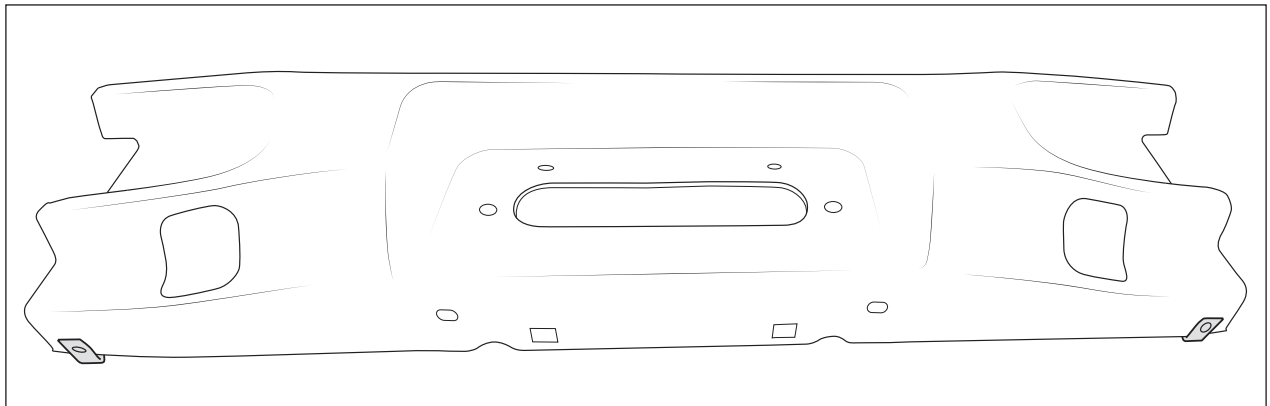

Figure 20
1. Install provided (large) M8 U-nuts to the bottom outboard holes of the bumper center (fig 20) and (small) #8 u-nuts to front face around fog light openings (fig 21).